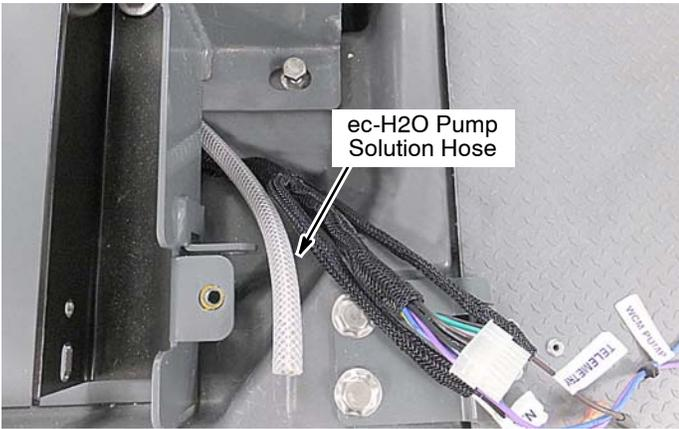
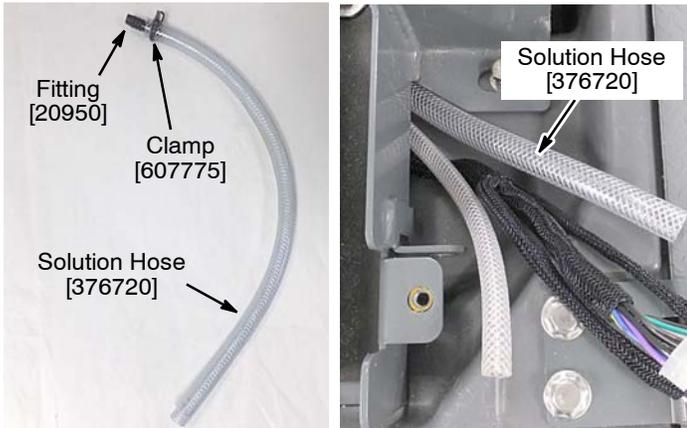

Fig. 22
Fig. 23
10. Using clamp [607775], connect hose fitting [20950] to solution hose [376720] (Figure 23). Route the solution hose towards the scrub head area following the same path as the ec-H2O pump solution hose as shown in Figure 22. The hose fitting end goes towards scrub head area.